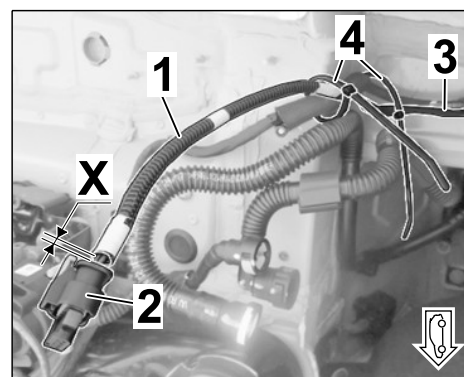

Figure 39
3.4.5 Install corrugated hose 4.5 x 7.6 x X to each branch from a distance of approx. 30 mm from the connector (socket housing 4-pin) to the underbody (⇒ *Figure 39*).